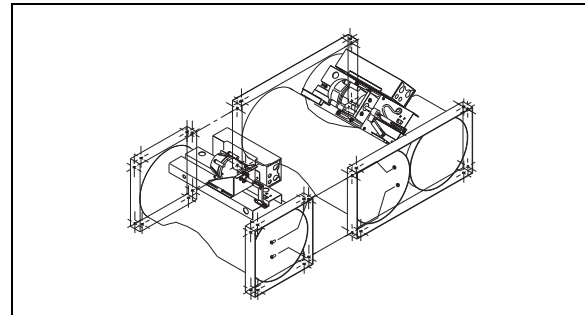

Fig. 3 Points for fastening multiple assemblies.
7. For multiple valves, assemble the valve sets on the floor using duct sealant and fasteners (see Fig. 3). Slip L style mating piece onto valve flange.